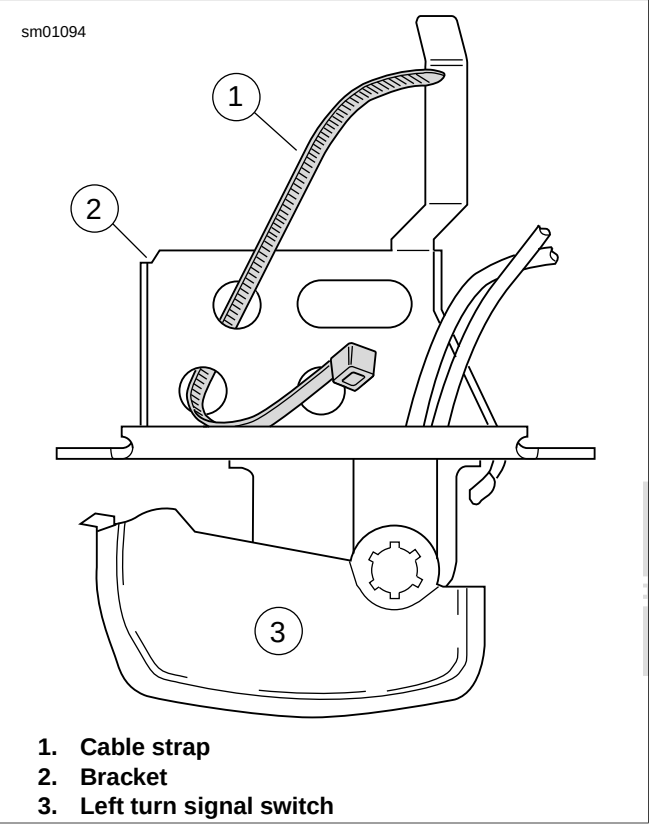

Figure 6-155. Insert Cable Strap in Switch Bracket
1. See Figure 6-155. Insert tapered end of new 7.0 in. (177.8 mm) cable strap (1) into round hole in turn signal switch bracket (2) and then feed back through using the adjacent hole. Reserve the oblong hole for the bracket screw.